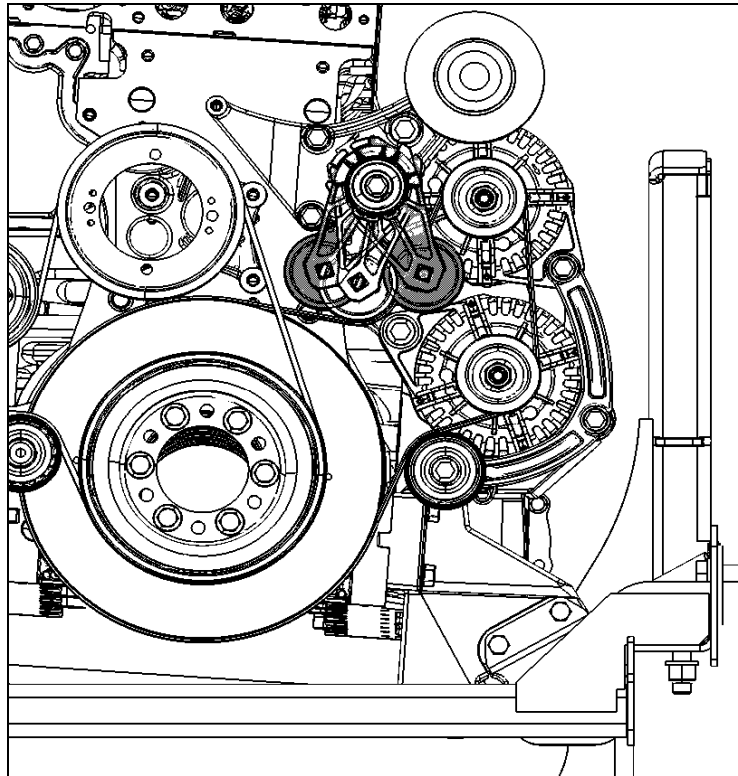

FIGURE 27: ALTERNATOR DRIVE BELT
If the alternators needed to be removed, reinstall as follows. Refer to figure 27 for installation and to figure 28 for tightening specifications:
7. Install alternators belt (figure 27).
1. Insert a  $\frac{3}{4}$ " socket drive into the automatic belt tensioner opening (Fig. 27).